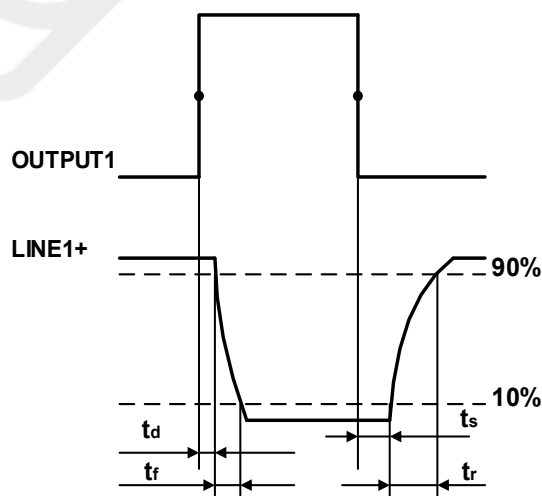

Figure 7-6 Parameter of opto-isolated output circuit
- Rising time delay = $t_r + t_d$: < 50 μ s (0 °C ~ 45 °C) (parameter description: Figure 7-6)
- Falling time delay = $t_s + t_f$: < 50 μ s (0 °C ~ 45 °C) (parameter description: Figure 7-6)